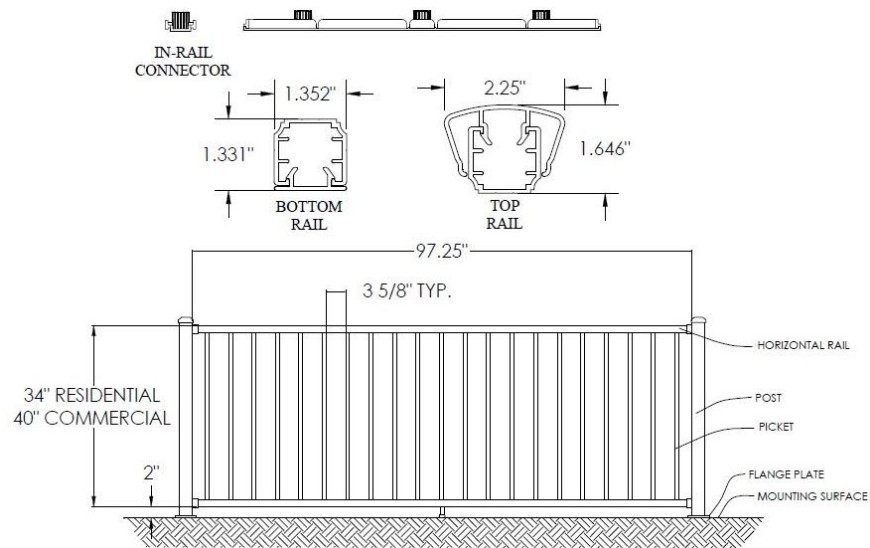

Figure 1 - Ultra Max Aluminum Two Rail System
3.5.1. The *Ultra Max* top rail system is composed of three pieces. The 6005-T5 aluminum Franklin or Jefferson gripping profile surface interlocks over the 6005-T5 aluminum *Ultra Max* routed internal rail section. This internal section is configured to receive the third piece which is a HPDE rail insert with integral connectors that slides inside the Rail A and drops into routed holes for the connection of the balusters. The bottom rail utilizes the same *Ultra Max* Rail A profile with an aluminum snap cover which is simply inverted for connection of the balusters. See Figures 1 & 2.